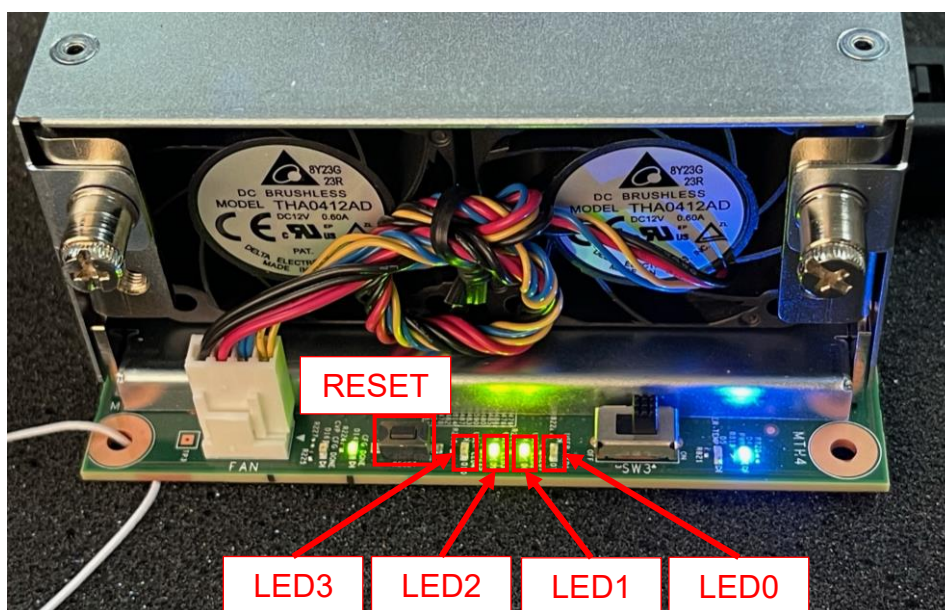

Figure 3-4 LED[3:0] status on board
- 8) When configuration is completed, user can check status LEDs on board as Figure 3-4.